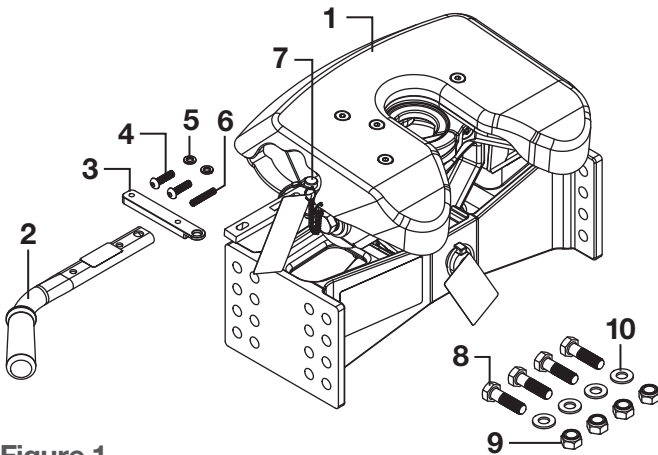

Figure 1
Attach the leg weldments to the mid-section with the supplied hardware, 'Parts List' items 8, 9 and 10. See Figure 1. Depending on which holes are required to achieve proper ride height, attachment of the legs to the mid-section may be easier with the mid-section positioned upside-down.